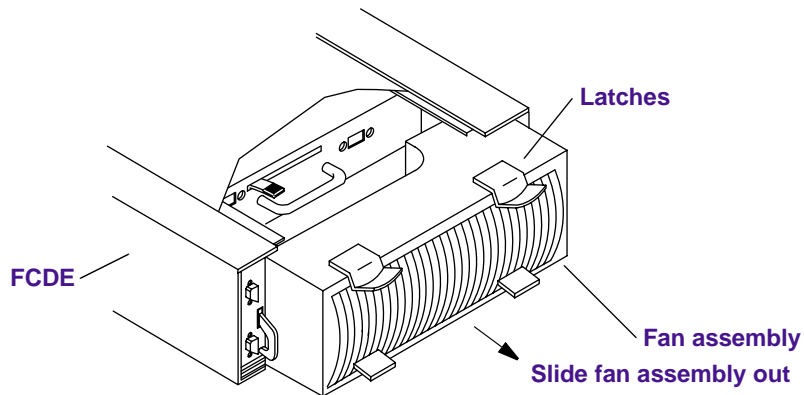

Figure 1-10 Removing the FCDE Fan Assembly
2. While you keep the latches pinched, slide the fan assembly out of the FCDE (see Figure 1-10).